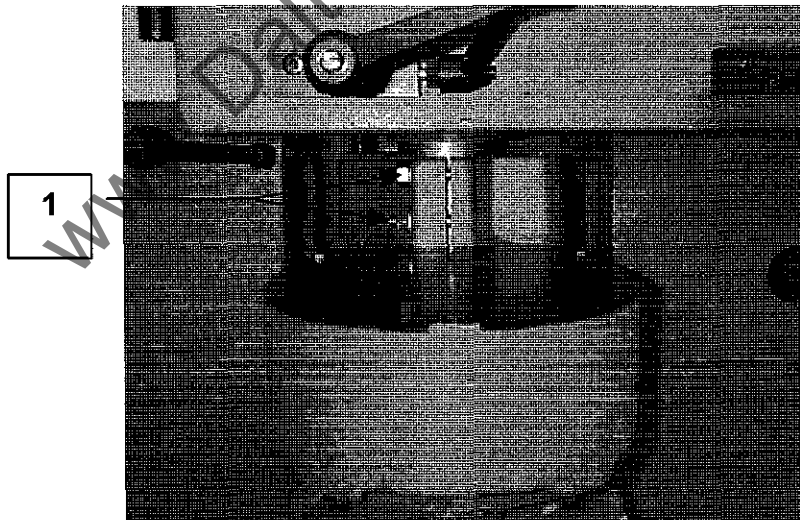

Figure 7.3.8
- 10 Locate the spindle and remove the wedge from the spindle housing and tighten locknut (1).
- 11 Refit the banjo and motor onto the spindle and remove the wedge from the banjo barrel; tighten the barrel clamp nuts (2).
7.3.8 Replace Fence/Near Side Head Spindle (Figure 7.3.8)